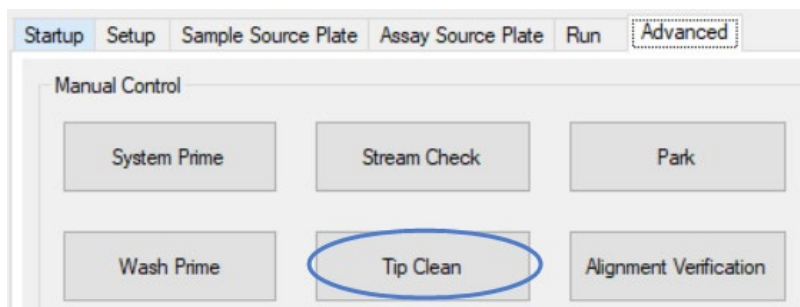

Figure 22. The [Tip Clean] button in the *Manual Control* section.
2. Click the [Tip Clean] button in the **Manual Control** section (Figure 22).
NOTE: The other buttons on the *Advanced* tab located under the buttons shown in Figure 22 are reserved for use by a certified Field Service Engineer. Customers are discouraged from using these.